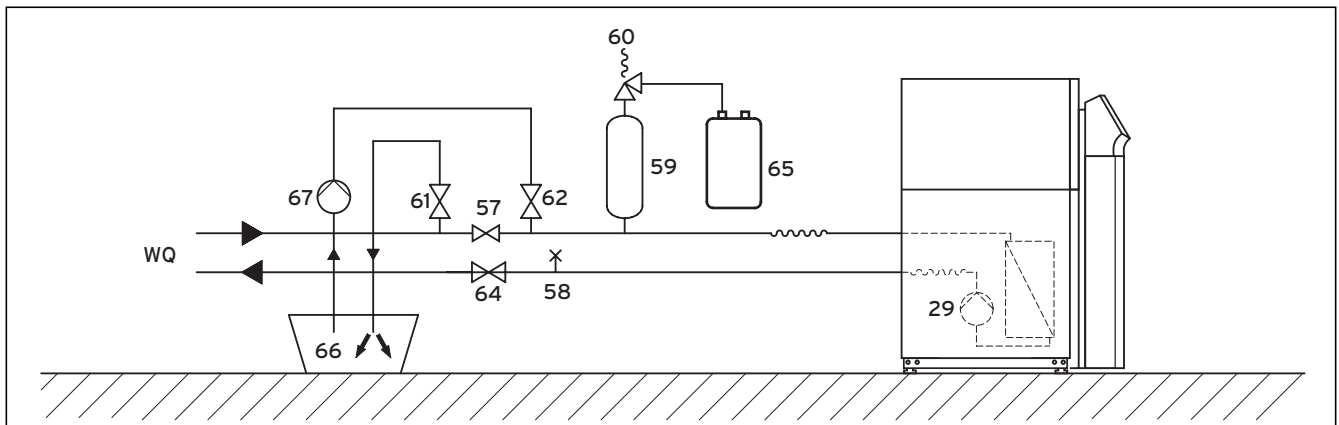

Fig. 5.1 Brine circuit
Key to Fig. 5.1
- Mix water and antifreeze to the specified concentration in a separate container (e.g. plastic canister, see Fig. 5.1, Item **66**). Every batch of the mixture must be carefully blended.
- Then fill the brine mixture from the container (**66**) into the heat source system. This will require a filling pump (**67**) that simultaneously bleeds the collector circuit as it fills it. Vaillant recommends the Vaillant filling pump (Art.No. 307 093). Connect the pressure line of the pump to the stop valve (**62**) (see Fig. 5.1).